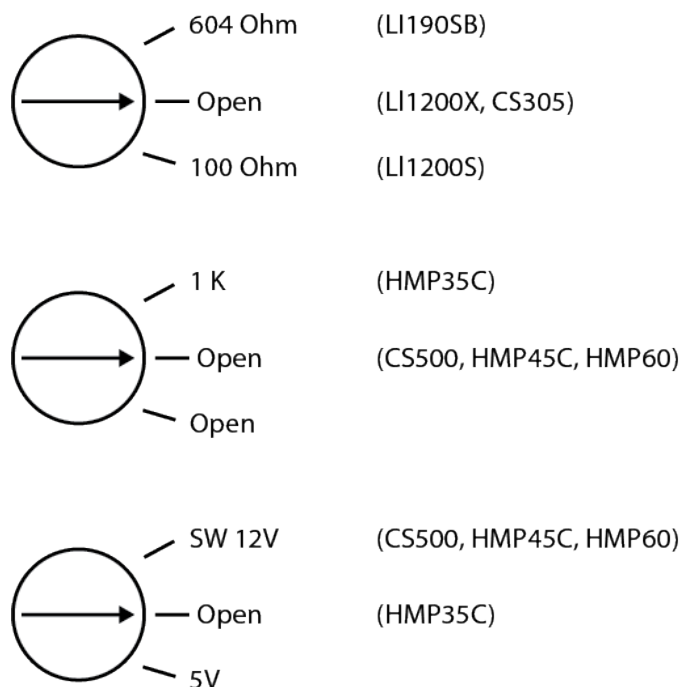

FIGURE 3-7. Default Sensor Switch Settings
- 4) Configure sensor switch settings as shown in FIGURE 3-7 if necessary.